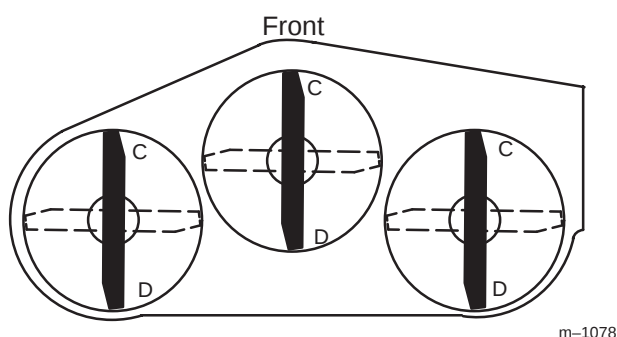
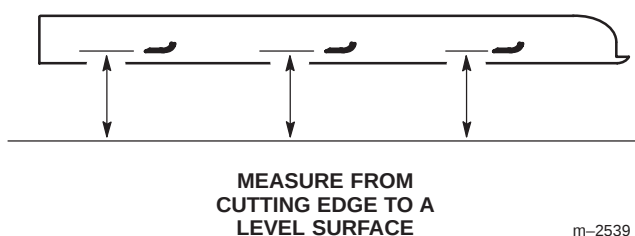

Figure 55
Figure 56
- Position one blade front-to-rear (Fig. 55). Measure at C and D locations (Fig. 55) from a level surface to the cutting edge of the blade tips (Fig. 56).
- Position the blades front-to-rear (Fig. 55). Measure at C and D locations (Fig. 55) from a level surface to the cutting edge of the blades (Fig. 56).